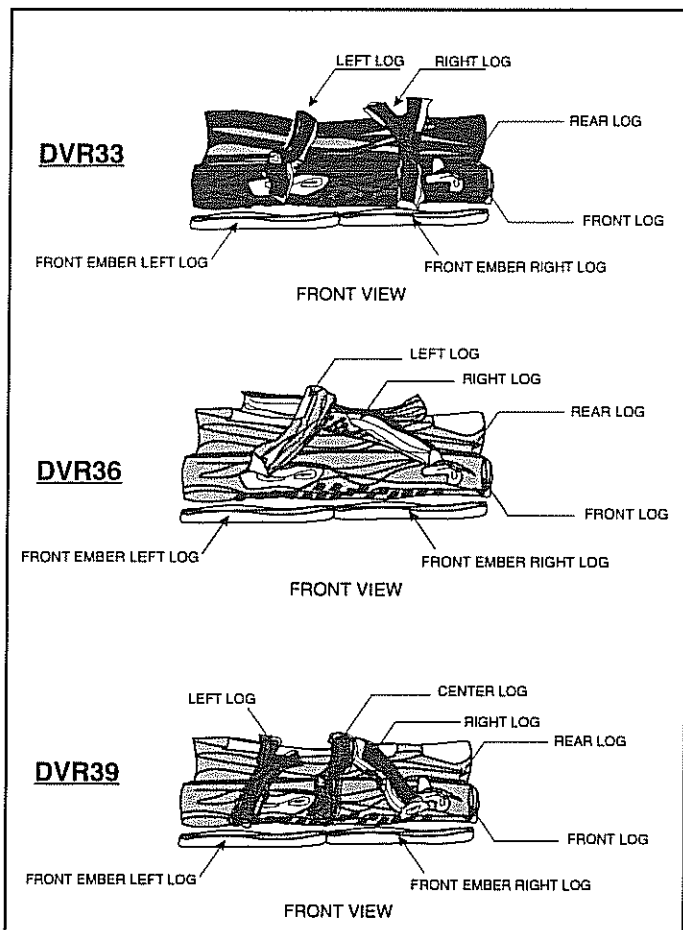

Fig. 42
5. Slip front ember log down between the front burner and the front deflector. Interlock the two (2) pieces to close the gap.
6. Place top logs onto locator notches. Ensure logs are secure (Fig. 42).